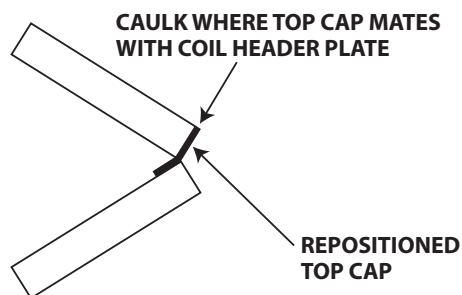

Figure 5. Top Cap Repositioning and Caulking for Horizontal Applications With Coil Apex Pointing Right
- For horizontal reverse air-flow applications where the air enters the apex of the coil, caulking must be used to seal between the vertical and horizontal drain pans to prevent air from blowing water out the of the horizontal drain pan between the drain pans as shown in Figure 5. Seal the seam between the vertical and horizontal drain pans by caulking the mating surface on the horizontal drain pan and setting the vertical drain pan on it. Center the vertical drain pan in horizontal drain pan and add screws in the corners to secure the drain pans together.